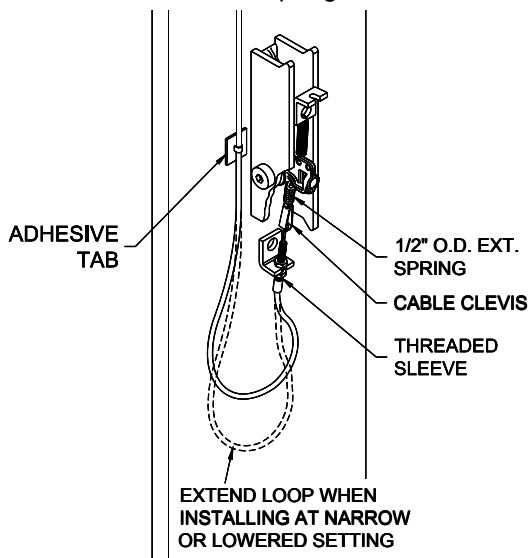

Fig 12 – Idler Column Lock Assembly
- 29) Attach Adhesive-Backed Tab to Idler Column left of the lock assembly (**Fig 12**). Route Lock Release Cable down left side of Idler Column and secure with loosely fit wire tie to Adhesive-Backed Tab. Attach Cable clevis to 1/2" O.D. Extension Spring.
- 30) Insert threaded sleeve portion of cable assembly in slot located on tab below lock pawl, **Fig 12**. With one jam nut located on each side of tab, adjust the threaded sleeve to begin to pull tension on the 1/2" O.D. spring. Snug jam nuts by hand.